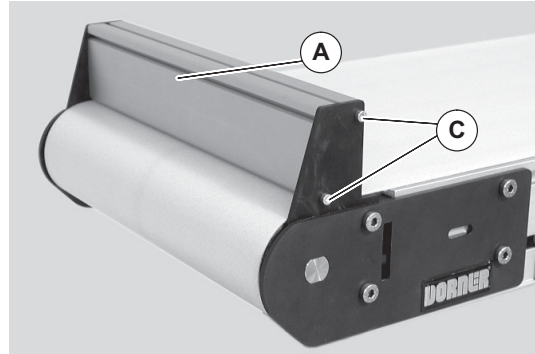

Figure 31
Periodically, remove two (2) set screws (Figure 31, item C) on both sides of the conveyor and remove end stop (A). Clean any debris from between end stop and conveyor belt. Replace end stop (A).